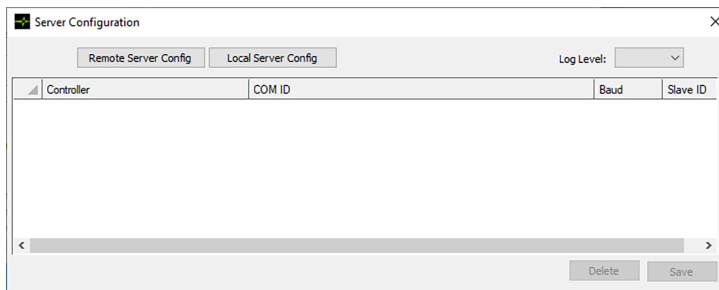

Figure 13 *Server Configuration Dialog – Remote Server Config*
1. On the Server Configuration dialog, click **Local Server Config**. The Server Configuration dialog opens (see Figure 13 on page 30).